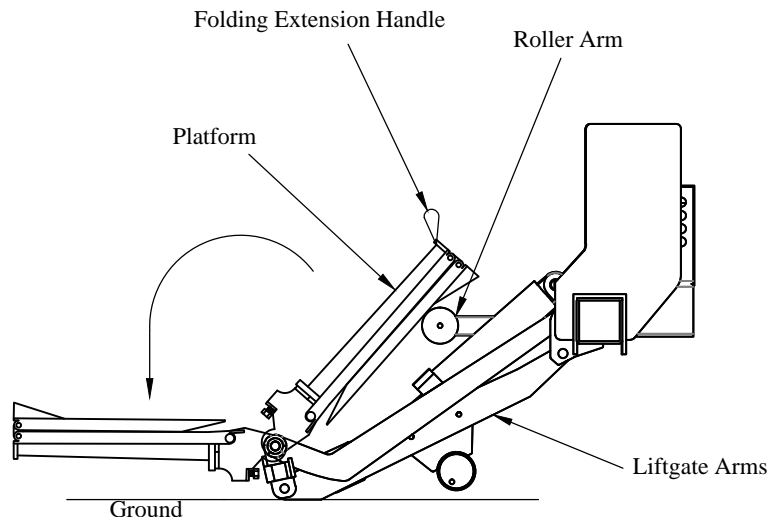

Figure 34: Step 8.
6. With the liftgate arms touching the ground, stand off to the side, and unfold the platform (Figure 34).